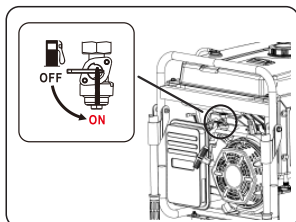

Fig 9
- Turn fuel valve to the “ON” position. (See fig 9 )